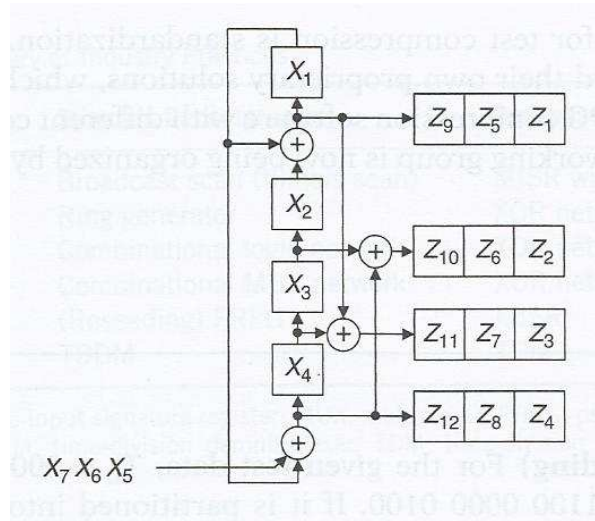

Figure 1
1. Consider the linear decompressor circuit in figure 1. Find the linear equations for the decompressor. Calculate the characteristic matrix A of the sequential linear decompressor such that  $AX = Z$